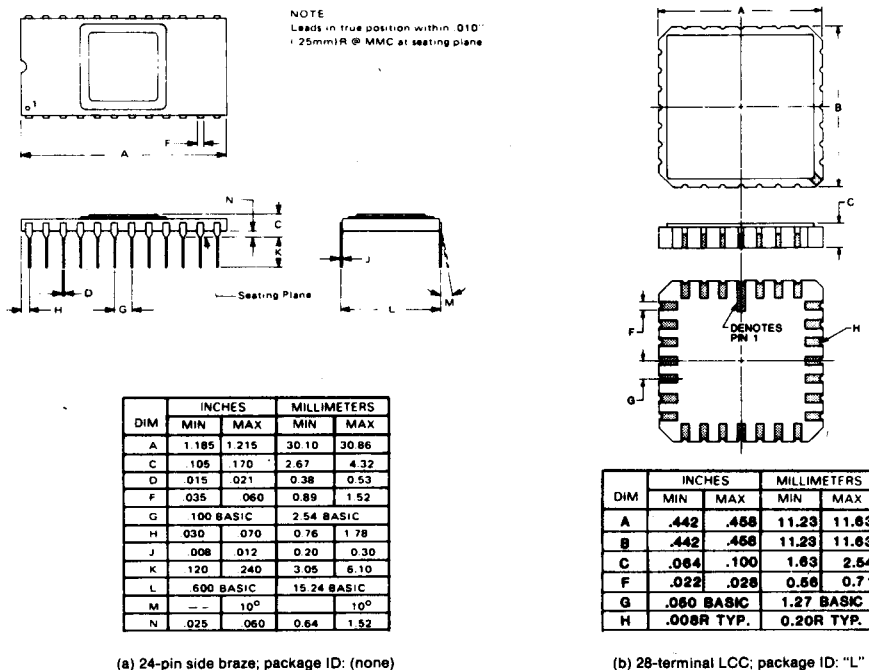

FIGURE 1. Case Outlines.
1.2.3.1 24-pin ceramic side-brazed (DIP). No package identifier is utilized to specify the 24-pin ceramic side-brazed package, which is MIL-M-38510, Appendix C, designator D-3, configuration 3. Figure 1 depicts the case outline for this package type.
1.2.3.2 28-terminal leadless chip carrier (LCC). The "L" package identifier is utilized to specify the 28-terminal square leadless chip carrier package, which is MIL-M-38510, Appendix C, designator C-4. Figure 1 depicts the case outline for this configuration.